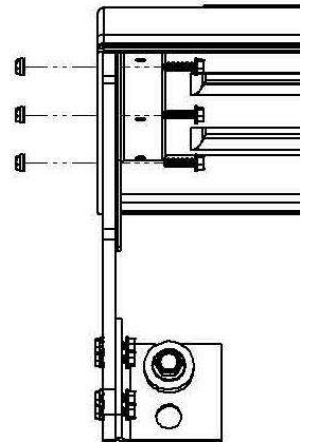

Figure 7
E. Install the center bracket as close to the end of the fender as possible (Figure 7).